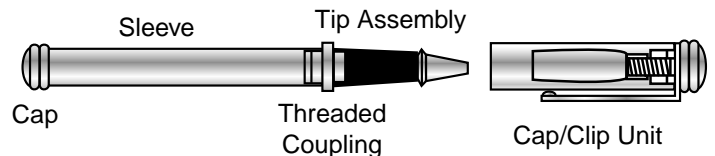
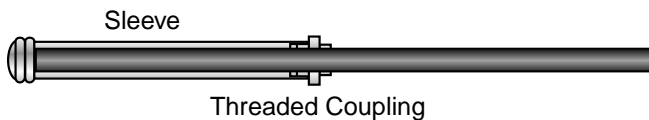

figure 3 - "Traditional" no cap on back
figure 4
- 3) For the "Traditional" pens without the cap held on the back (Figure 3), insert the Shaft "A" through the threaded coupling of the pen body, until it butts up to the cap (Figure 4). Hold the barrel tightly in your fist while tapping on the end of the shaft with a hammer. Sharp forceful taps will dislodge the cap.